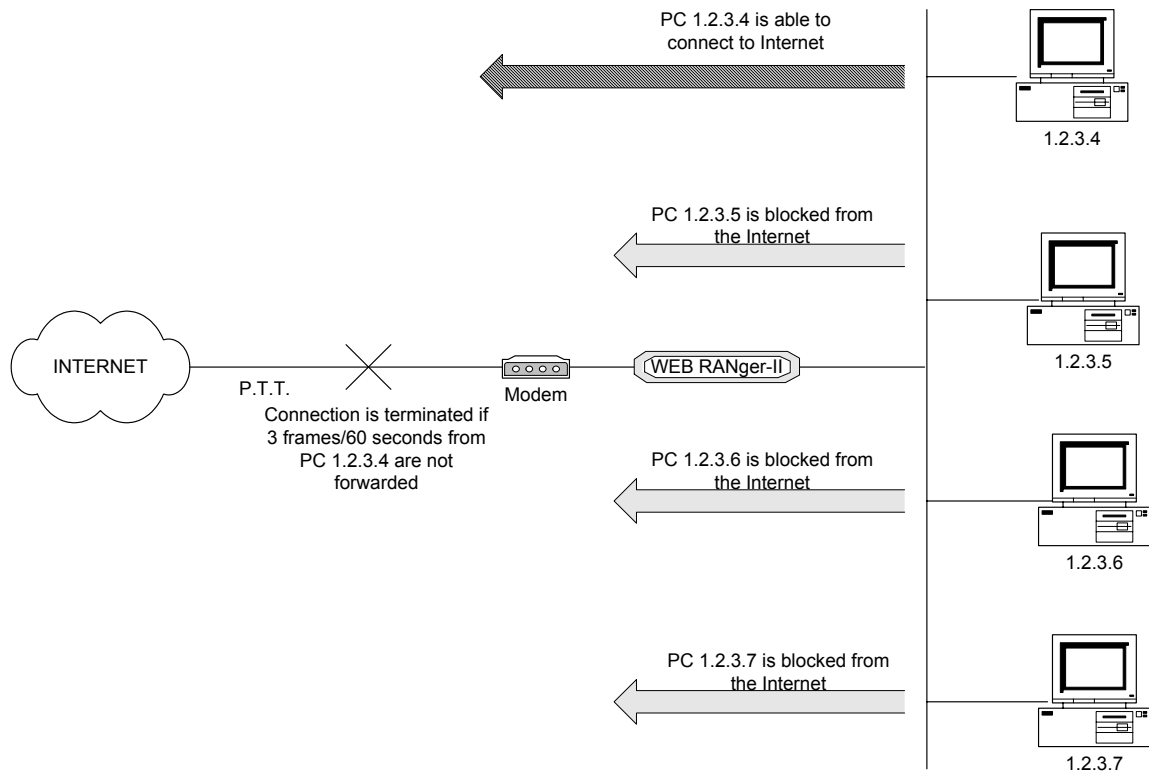

Figure 4-90. Limiting Access to a Specific PC
- Terminate connection must be *no specific frame to forward*. A filter which counts only frames from the 1.2.3.4 IP address must be defined. In addition the rate must be defined at 3 frames/60 seconds (see Figure 4-90).